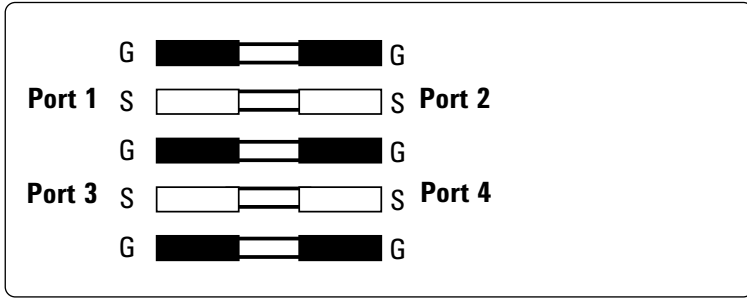

Figure 18. Verification of the full 4-port error correction
3. After verifying the calibration by repeating this one port measurement on each test port, a full 4-port verification measurement can be performed by using elements on the ISS. As shown in Figure 18, using a special thru pattern on the ISS, port 1 and port 2, and port 3 and port 4 are connected.